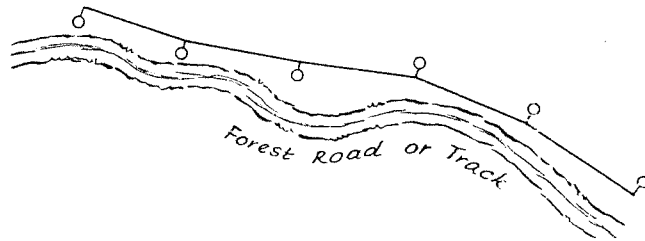

Fig. 2.
- (vii) Sharp angles should be avoided as far as possible. The route should be selected in the general direction of bush tracks and should not follow the crooks and sharp turns. (See Fig. 2.)